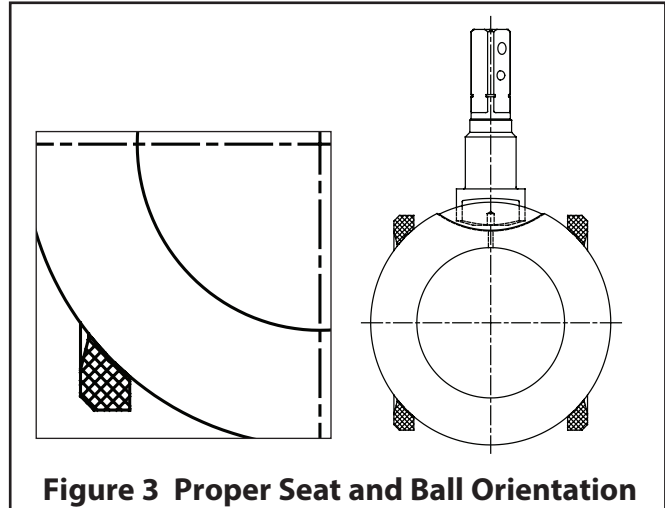

Figure 3 Proper Seat and Ball Orientation
3. Carefully clean and polish the ball (3) sealing surface: It should be free of all scratches and grooves.
5. With the body insert side facing up, slide one valve seat (7) sideways into the body (1) to below the stem bore, and tilt it into place so that the proper surface (see **Figure 3**) will be adjacent to the ball (3), being careful not to cut or scratch the seat.
14. Insert the ball (3) rotating it onto the stem (5) in the closed position. If necessary, turn the stem blade to align with the ball slot. Make certain that the stem blade is in the middle of the ball slot; i.e. equal distance from the ends of the slot. Rotate the ball if necessary (see **Figure 3**).
15. Gently place the body gasket (65) into the machined recess of the body (1).
16. Place the second seat (7) into the insert (2) so that the proper surface adjacent to the ball, (see **Figure 3**).
* Used with Barrier seats only (See Figure 3)